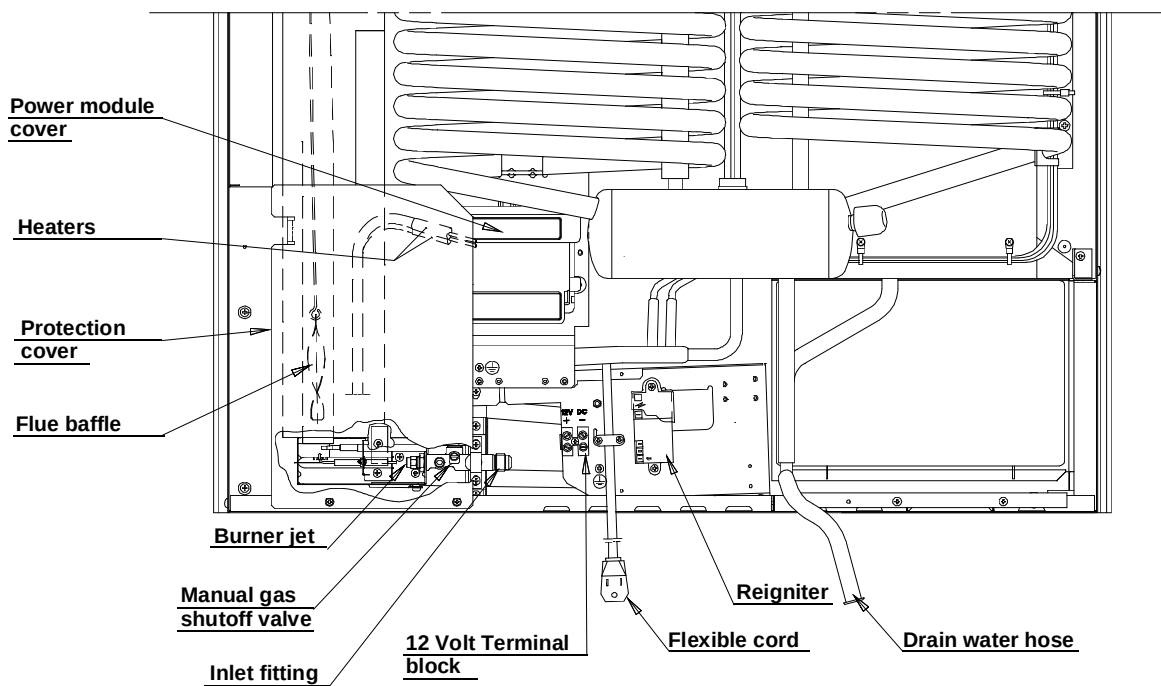

FIG. 1
DC control is required to maintain the automatic energy system). The connection is made to the positive (+) and negative (-) terminals of the terminal block on the back of the refrigerator. (See FIG. 1). Correct polarity must be observed when connecting to the DC supply.
2. Check that the gas flame is lit and the GAS mode indicator lamp (C) is on.
3. Close the manual gas shutoff valve at the back of the refrigerator. (See FIG. 1).
4. Wait for one minute. The CHECK indicator lamp (D) should be on and the GAS mode indicator lamp (C) should be off.
5. Remove protection cover (see FIG. 1) and open the manual gas shutoff valve. Do not change any button positions on the control panel. Apply a non-corrosive commercial bubble solution to the burner jet orifice.
7. If no bubbles were present at the burner jet orifice, it should be rinsed with fresh water. Be careful not to damage the burner jet orifice. Replace cover and press the main power ON/OFF button (1) OFF and back ON. Normal operation of the burner should return. Allow the burner to operate for a minimum of five minutes.